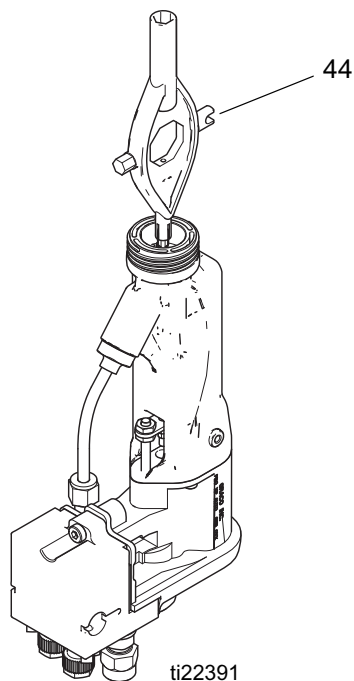

FIG. 29. Electrode Replacement
3. Unscrew the electrode (3) with the multi-tool (44). FIGURE 29.